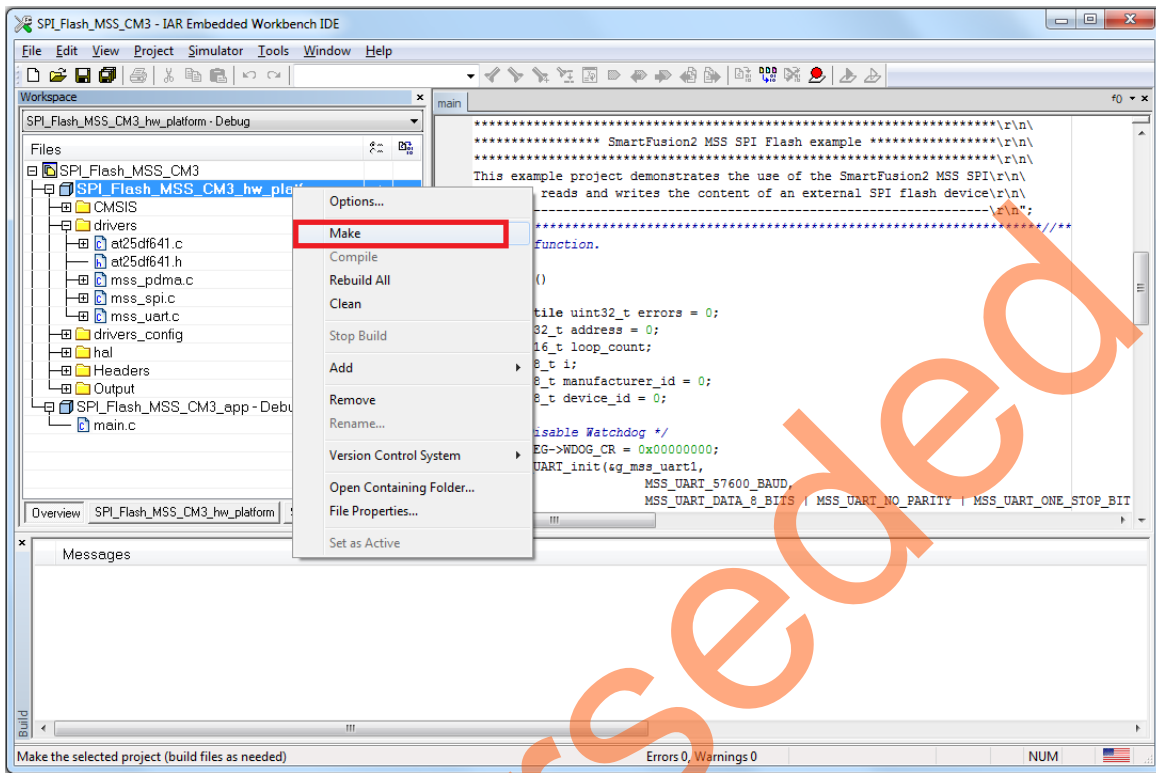

Figure 31 • IAR Workspace - Hardware Platform Code Compilation using Make
17. Right-click on **SPI_Flash_MSS_CM3_hw_platform - Debug** and select **Make** as shown in (Figure 31 and Figure 32 on page 30).